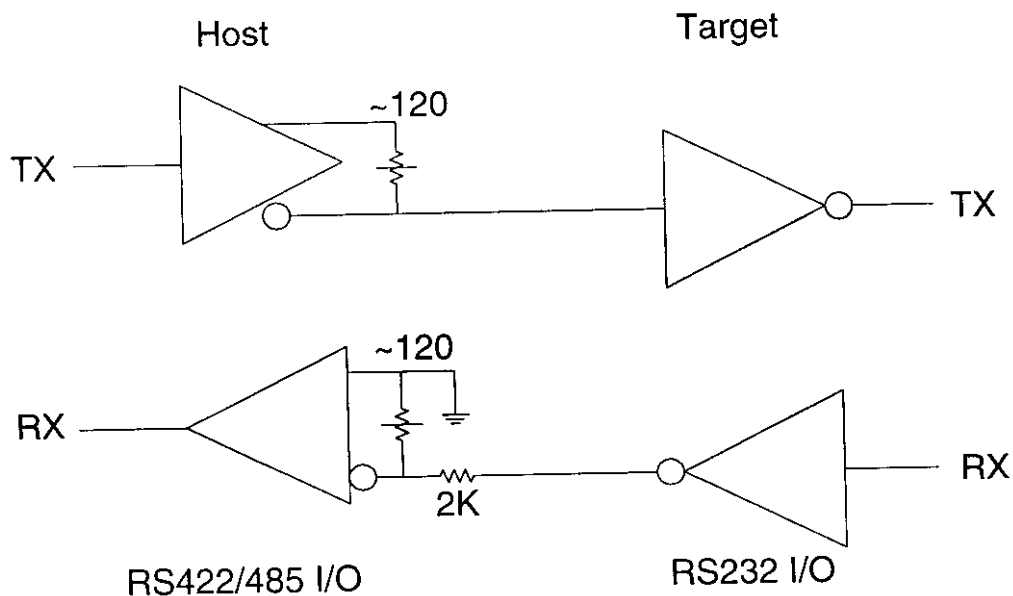

Figure 2. RS422/485 Four Wire Interface
- Interface: RS232C, RS422/485 4 wire (see Figure 2), or logic level.
- Connectors (2): 1 signal: (5 wire) TX, RX, Multi-drop address 0 & 1, common